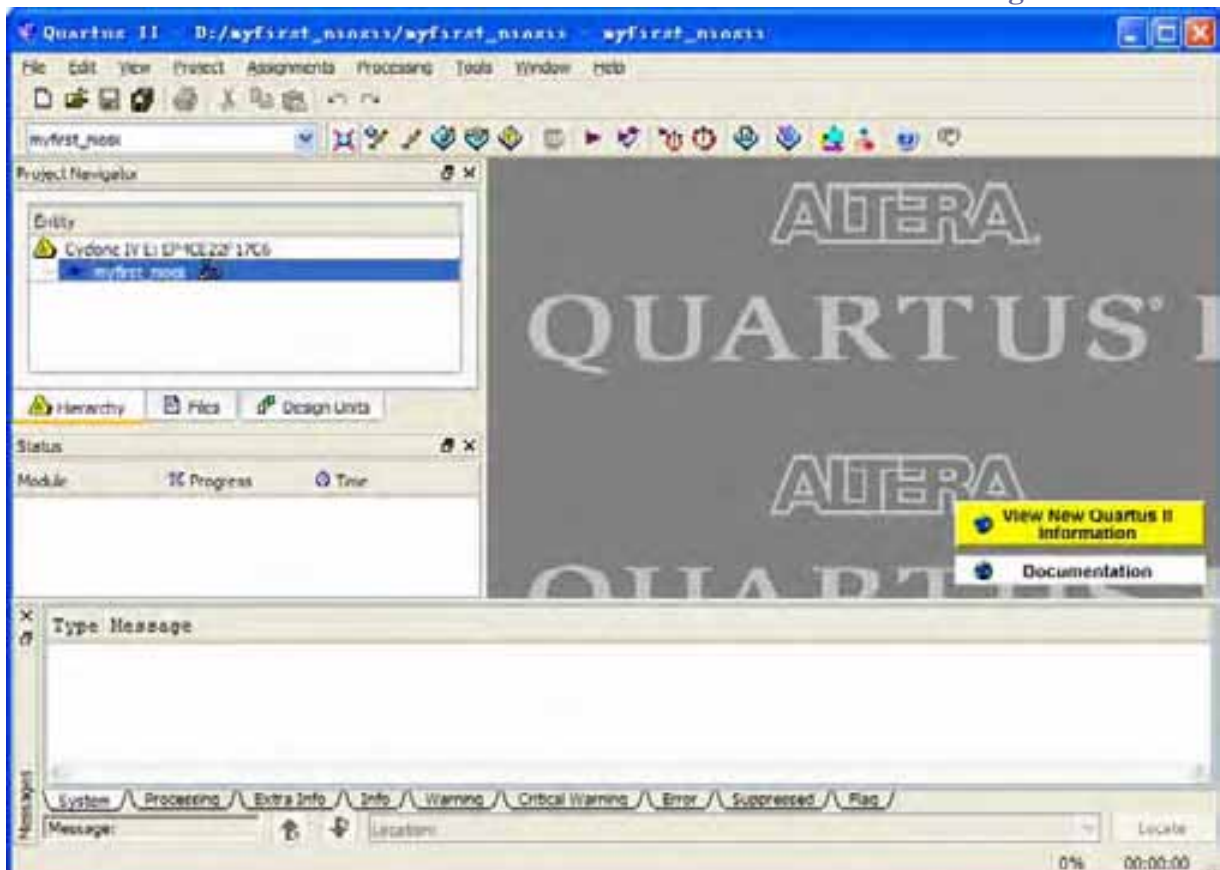

Figure 7-39 Return to Quartus II after exiting SOPC Builder
24. Click **Exit** to exit the SOPC Builder and return to the window as shown in Figure 7-39.